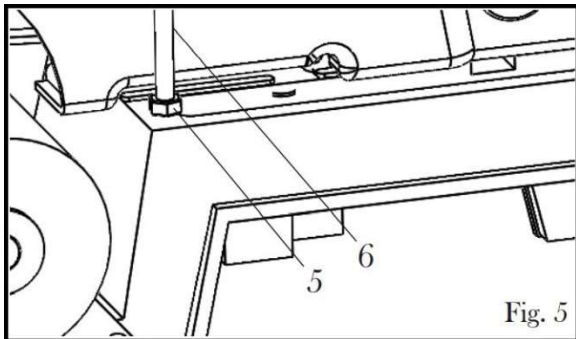

Figure 5
- Now loosen the locking nut (5) on the table adjustment screw (6) located under the table by turning it counter-clockwise. Lower the table adjustment screw by turning it clockwise. (See Figure 5)
- Now tighten the table adjusting screw located under the table (6) until the top of the screw touches the bottom of the table. (see figure 5)